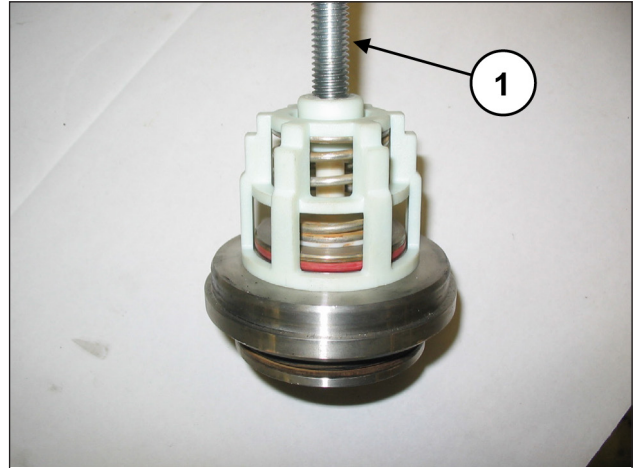

Fig. 114
Remove the suction and outlet valve units, unscrewing an M10 screw in such a way to press on the inner guide and remove the valve guide from the valve housing (pos. ①, Fig. 114).